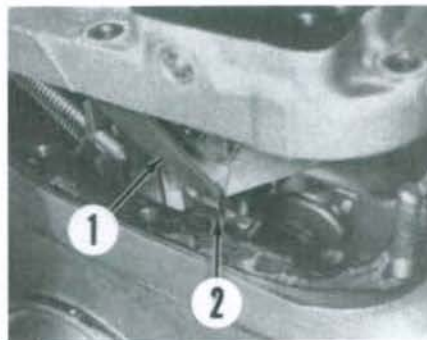

Fig. 207—On pressure control models, be sure pressure control lever (1) engages "butterfly" bracket when installing lift cover.
When reinstalling, be sure vertical control lever (4—Fig. 206) on cover is to rear of hydraulic pump control lever. Be sure "butterfly" bracket (2—Fig. 207), if so equipped, is installed on top of pump servo valve and that pressure control lever (1) engages the "butterfly" as shown. Use a welding rod or similar thin rod to guide standpipe into position as shown in Fig. 208.